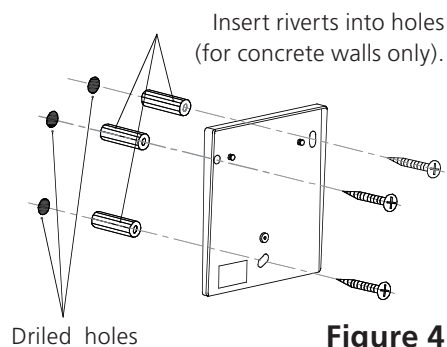

Figure 4
- Mark the spots to drill holes at, by making use of the holes in the plate, as shown in figure 4, and attach the plate to the wall. You can use the supplied screws and plug for the attachment of the plate.